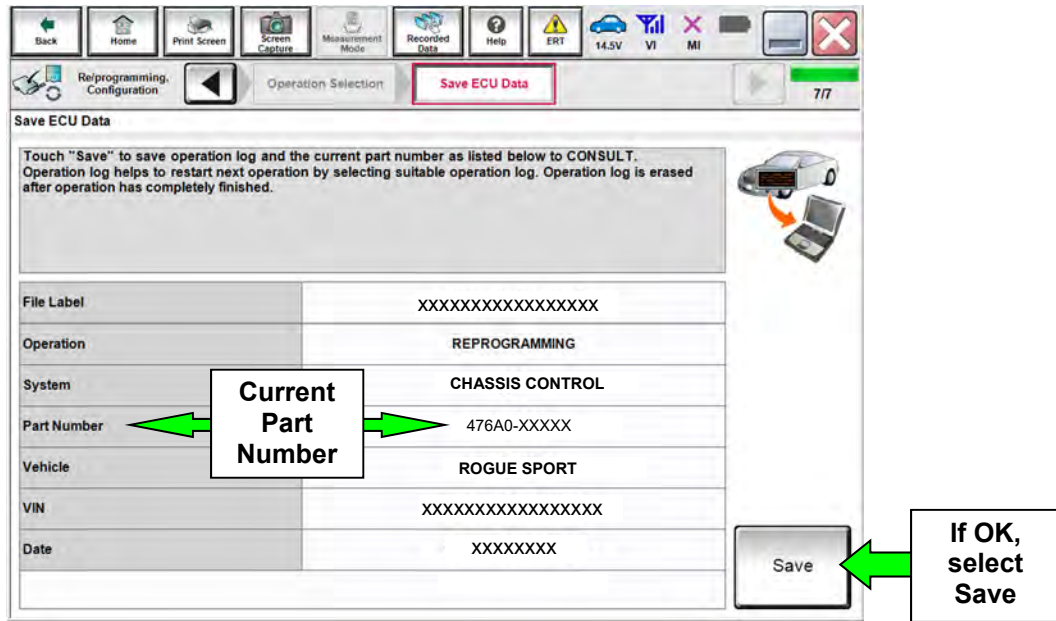

Figure 11
24. When you get to the screen shown in Figure 11, confirm reprogramming applies as follows: